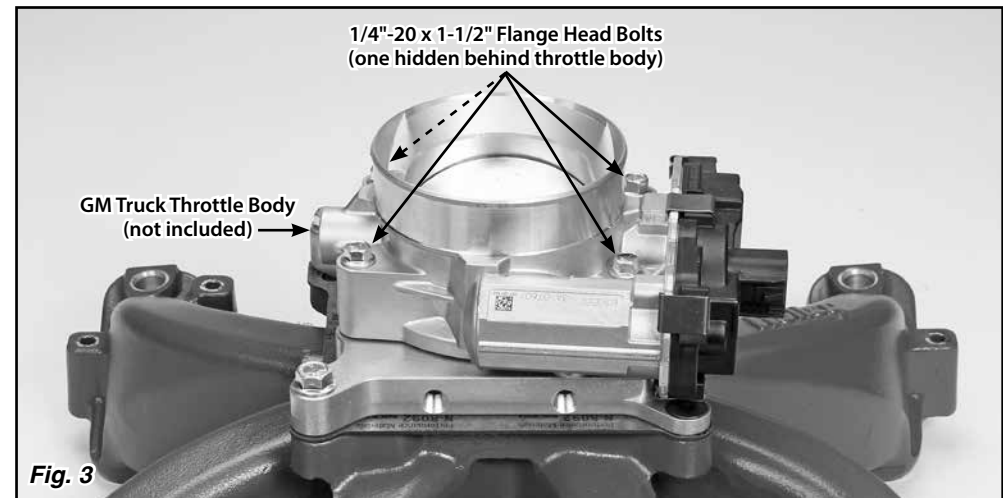

Fig. 3
Step 6: Place the truck throttle body (not included) on top of the throttle body adapter, with the throttle body motor and the electrical connector over the corner with the flat head bolt. Install four 1/4"-20 x 1-1/2" flange head bolts and tighten in a criss-cross pattern to 5 lb.-ft. **Fig. 3**